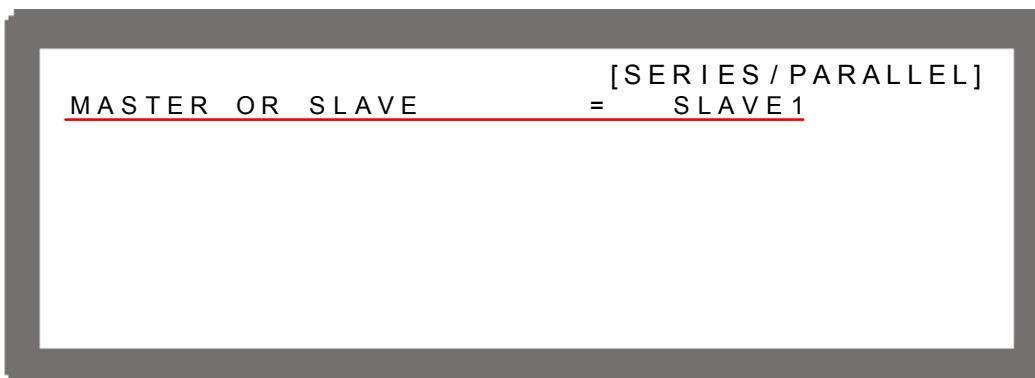

Figure 3-37
2. Use the numeric  $\boxed{1}$  -  $\boxed{4}$  keys or the “Rotary”  $(\odot)$  knob to set SLAVE1-SLAVE4 as shown in Figure 3-37.